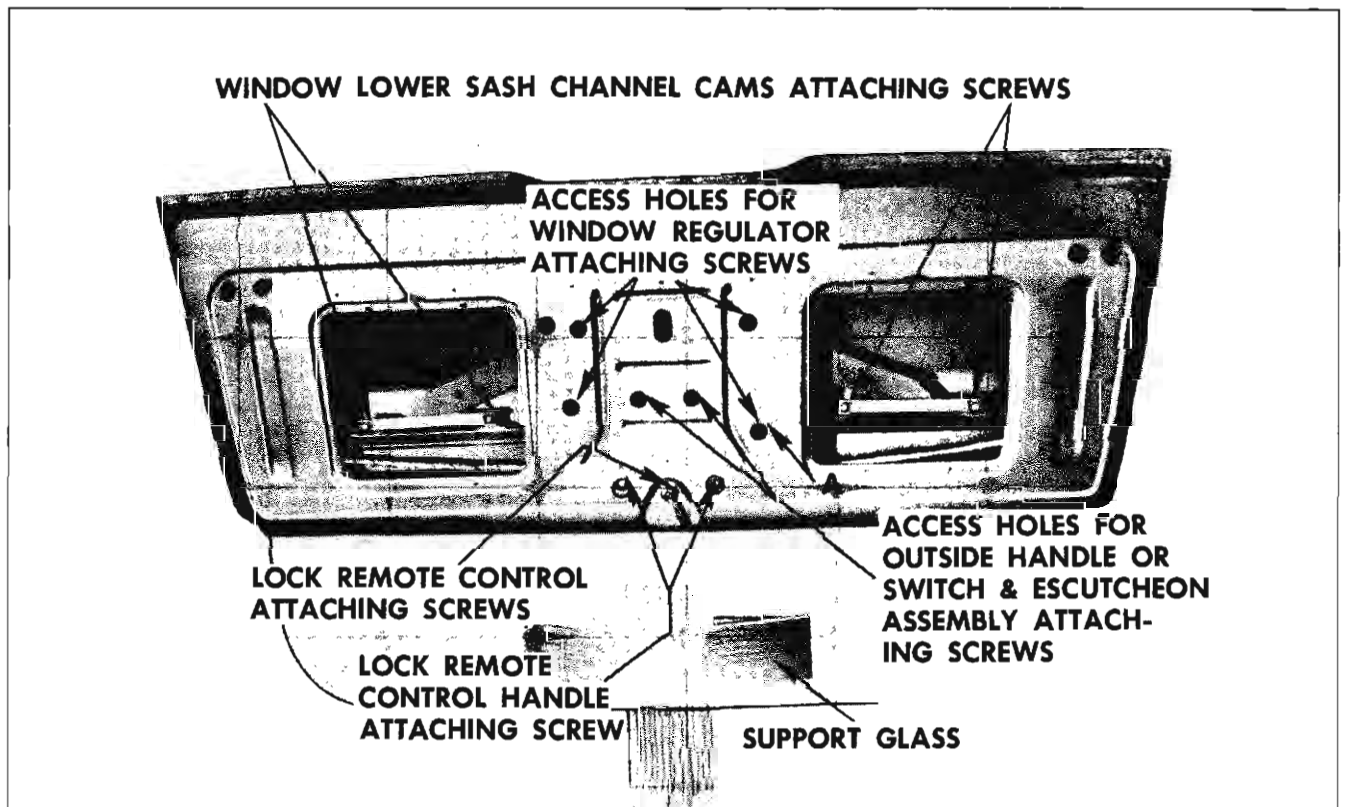

Fig. 14-19 Window Control Hardware
3. Carefully operate window upward until lower sash channel cam attaching screws are accessible through access holes; then, remove both right and left cam attaching screws (Fig. 14-19) and disengage cams from window sash channel.
3. Through access holes remove window regulator attaching screws (Fig. 14-19) and remove regulator.
NOTE: If window is inoperative in a down position, remove inner panel left access hole cover; then remove both right and left lower sash channel cam attaching screws (Fig. 14-19) and lift window up sufficiently to gain access to regulator motor attaching screws. Prop window in up position.
CAUTION: Support window during operation and while window is in out position (Fig. 14-19).
3. Through access holes (Fig. 14-19) remove outside handle attaching nuts and remove outside handle.
3. Through access holes (Fig. 14-19) remove escutcheon attaching nuts. Detach assembly from tail gate sufficiently to disconnect junction block from switch, then remove assembly and gasket from tail gate.
2. Disconnect remote control to lock connecting rods at remote control. Remove remote control inside handle attaching screw and remove handle (Fig. 14-19).
3. Remove remote control attaching screws (Fig. 14-19) and remove remote control.
1. Open tail gate. Remove inner cover panel, inner panel water deflector and access hole cover. Operate window to full up and support it in that position. Remove glass run channel attaching screws (Fig. 14-19) and remove channels.
2. Remove striker attaching screws (Fig. 14-19) and remove striker and adjusting plates from body pillar.